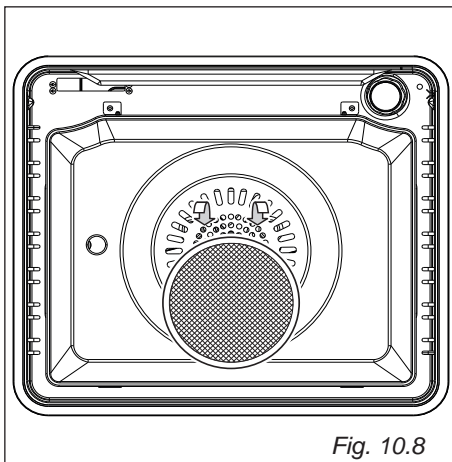

Fig. 10.8
- A special screen is provided at the back of the oven to catch grease particles, mainly when meat is being roasted. Slide in the grease filters on the back of the oven as in fig. 10.8.